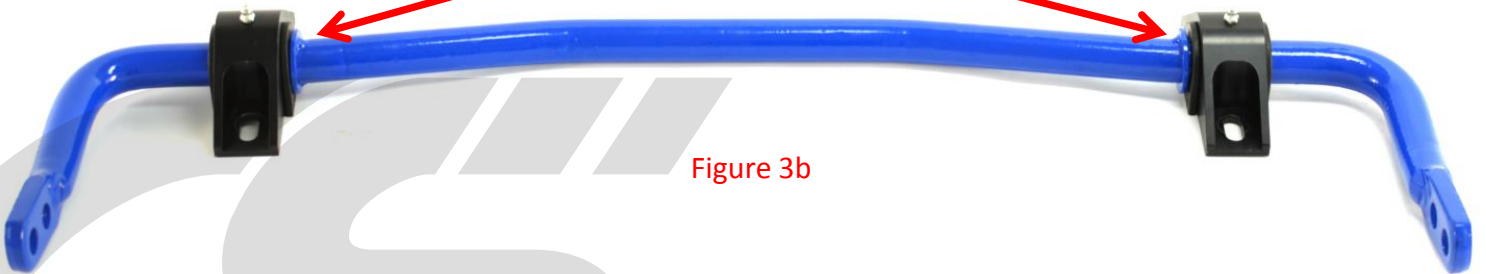
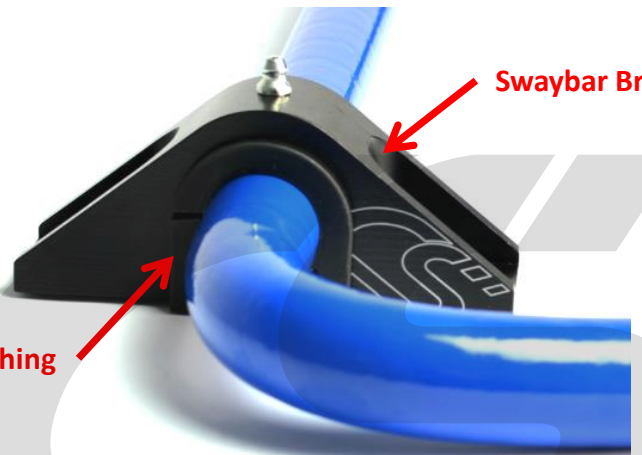

Figure 3b
Figure 3c
- b) **Assemble the sway bar brackets on the CorkSport Rear Sway bar.** Refer to **Figure 3b** for final assembly and **Figure 3c** for a detailed picture. Make sure to press the Bushings up against the welded bushing stop.